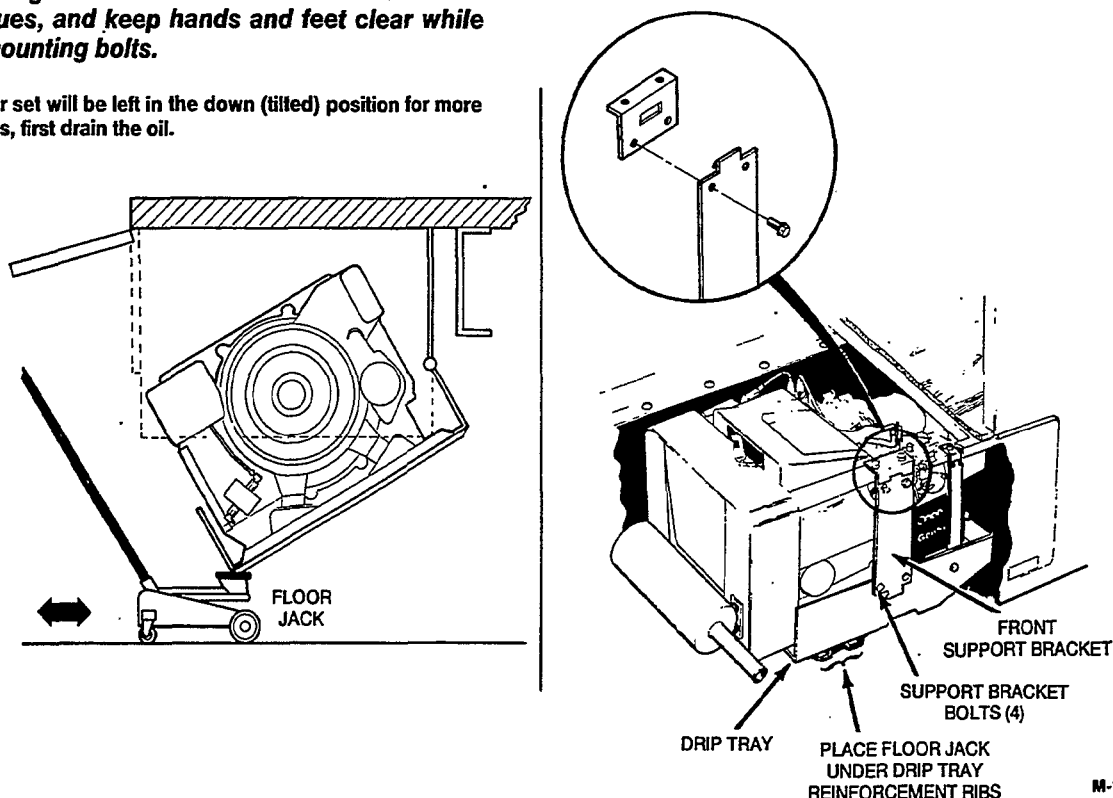

FIGURE 5-3. PARTIAL SET REMOVAL
2. Position a floor jack under the reinforcement ribs of the drip tray, as shown in Figure 5-3.